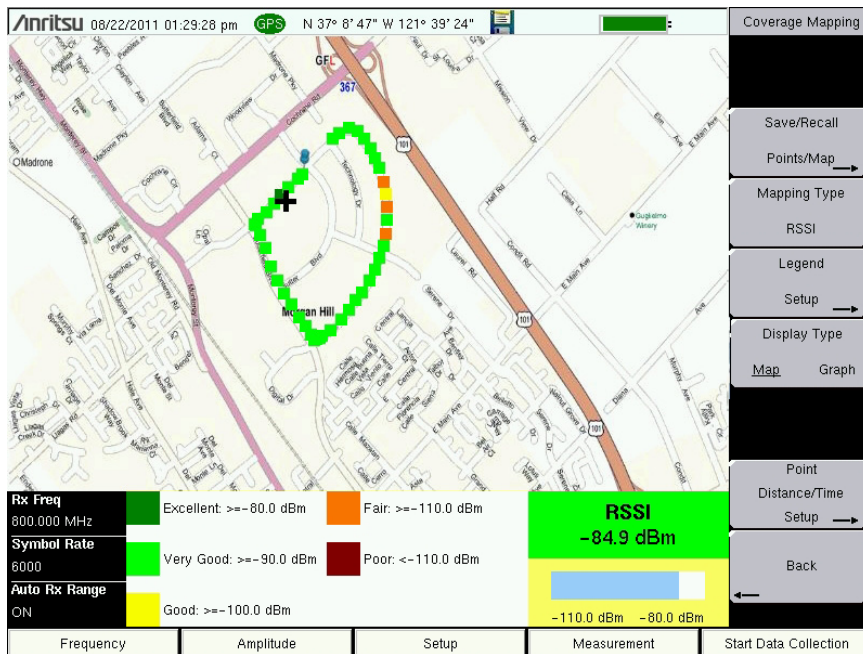

Figure 3-13. Coverage Measurements
1. Press the **Measurement** main menu key, then press the NBFM Coverage submenu key twice (Figure 3-13).
1. Press the **Measurement** main menu key, then press the P25 Coverage, P25p2 Coverage, NXDN Coverage, DMR 2 Coverage, PTC Coverage, or TETRA Coverage submenu key twice (Figure 3-13).